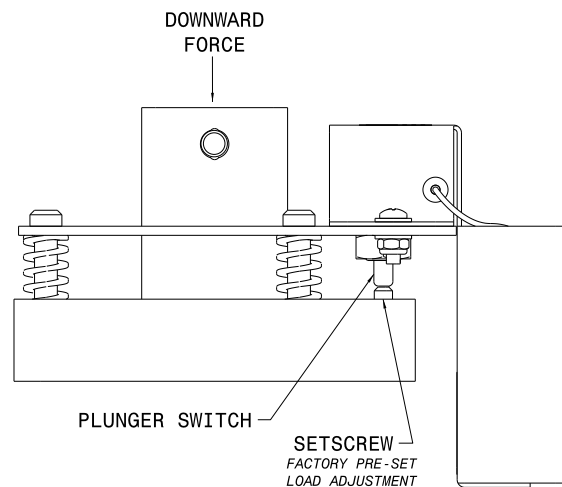

Figure 2
2. Depress the plunger switch to check electronic circuit. The alarm will sound when the switch is engaged. (see Figure 2)